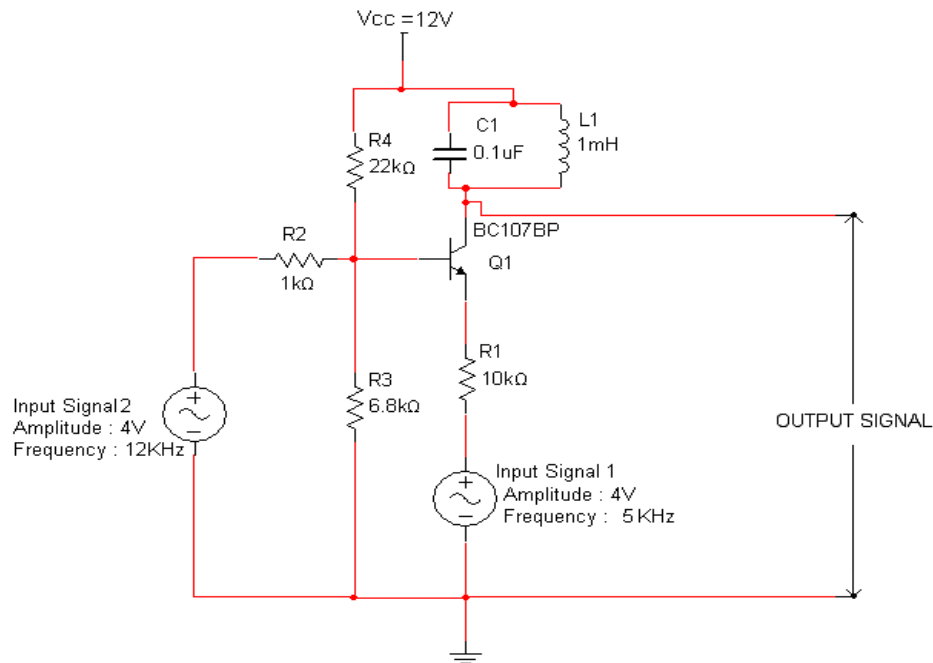

FIG.1. Mixer Circuit
1. Connect the circuit as per the circuit diagram as shown in Fig.1. Assume $C=0.1\mu\text{F}$ and